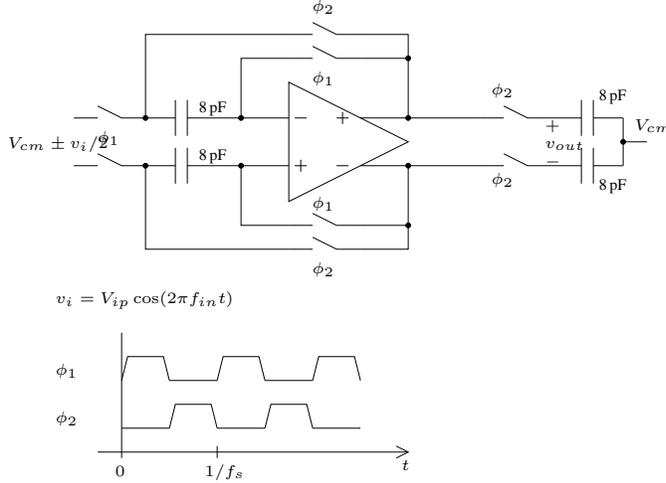

Figure 3: Sample and hold circuit
1. **Sample and hold:** Design the sample and hold circuit in Fig. 3 using the fully differential folded cascode opamp designed above. Use ideal switches with $1\text{ k}\Omega$ on resistance. Use $f_s = 4\text{ MHz}$ and $f_{in} = \{1/4, 9/4\}\text{ MHz}$ (sinusoidal input with 1.6 Vppd^2 amplitude) and plot the output waveforms. Provide a plot that shows the settling behavior of the opamp.